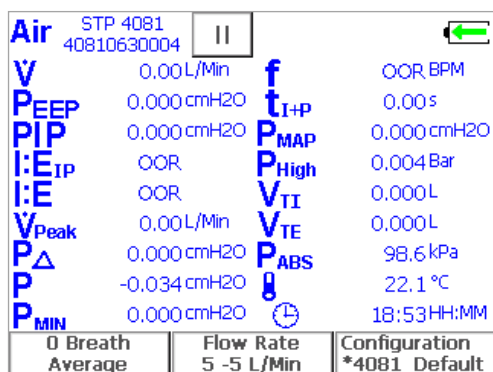

Figure 15. Example of Parameter Screen
2. One of two types of screens will appear on the display: **Graph Screen** or **Parameter Screen** (see Figures 15 and 16).